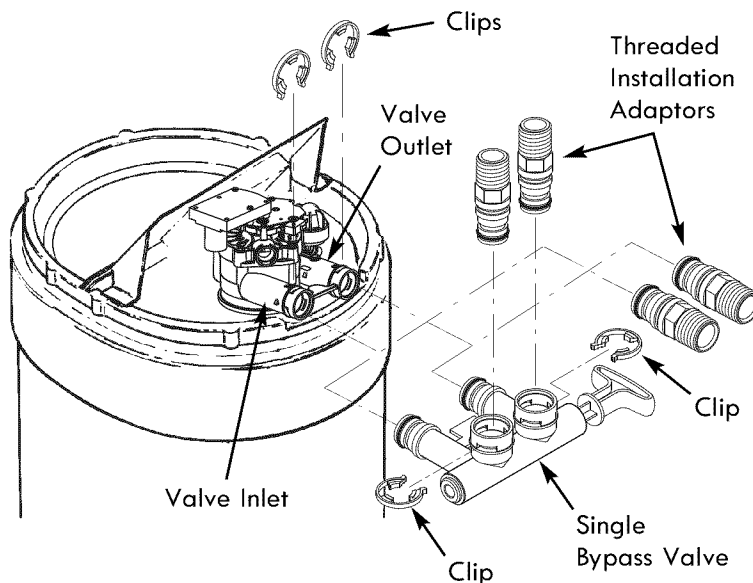
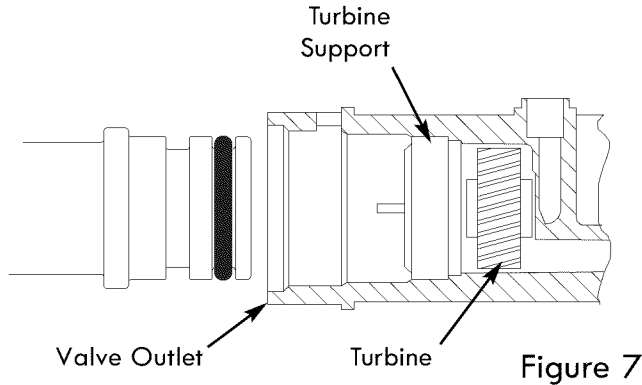

Figure 6
Figure 7
5. Visually check and remove any foreign materials from the valve inlet and outlet ports (see Fig. 6). Check to be sure the turbine and support are firmly in place (see Fig. 7).